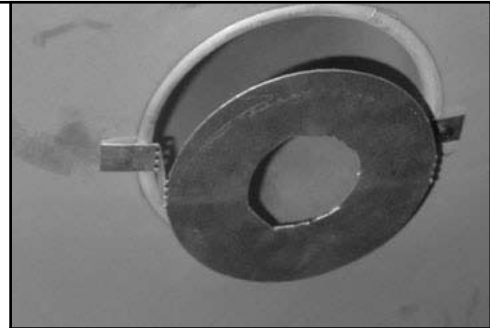

Figure 7.7a 12 ft to 30 ft Vertical Run
- Using the screws removed, Install flue restrictor according to your installation requirements. See Figures 7.7a and 7.7b.